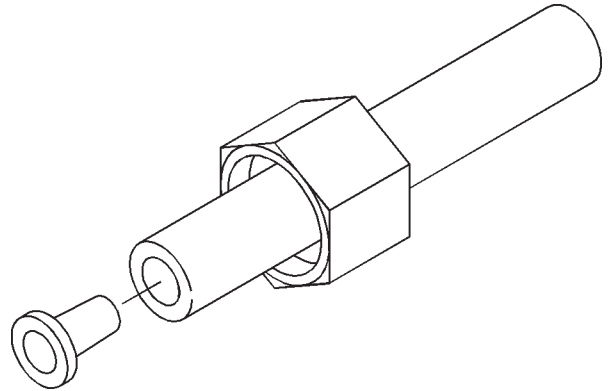

Figure 17. Brine valve tubing.
3. Slip the white nut over one end of the tubing and press the plastic insert into the end of the tubing (Figure 17). Connect to the brine valve and tighten nut.
5. Slip the white nut over one end of the tubing and press the plastic insert into the end of the tubing (Figure 17). Connect to the brine connection on the valve and tighten nut.